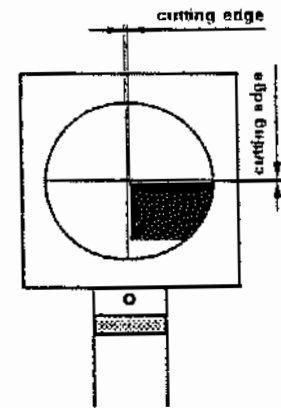

Fig. 6: Cutting edge
The rough setting (6) and fine setting (7) of the X and Z axes are used for assessment. The cutting edge screening principle (Fig. 6) is used: the shadows of the cutting tool either lie against the cross hairs such that a thin light slit can still be seen, or lie directly on the projector screen.